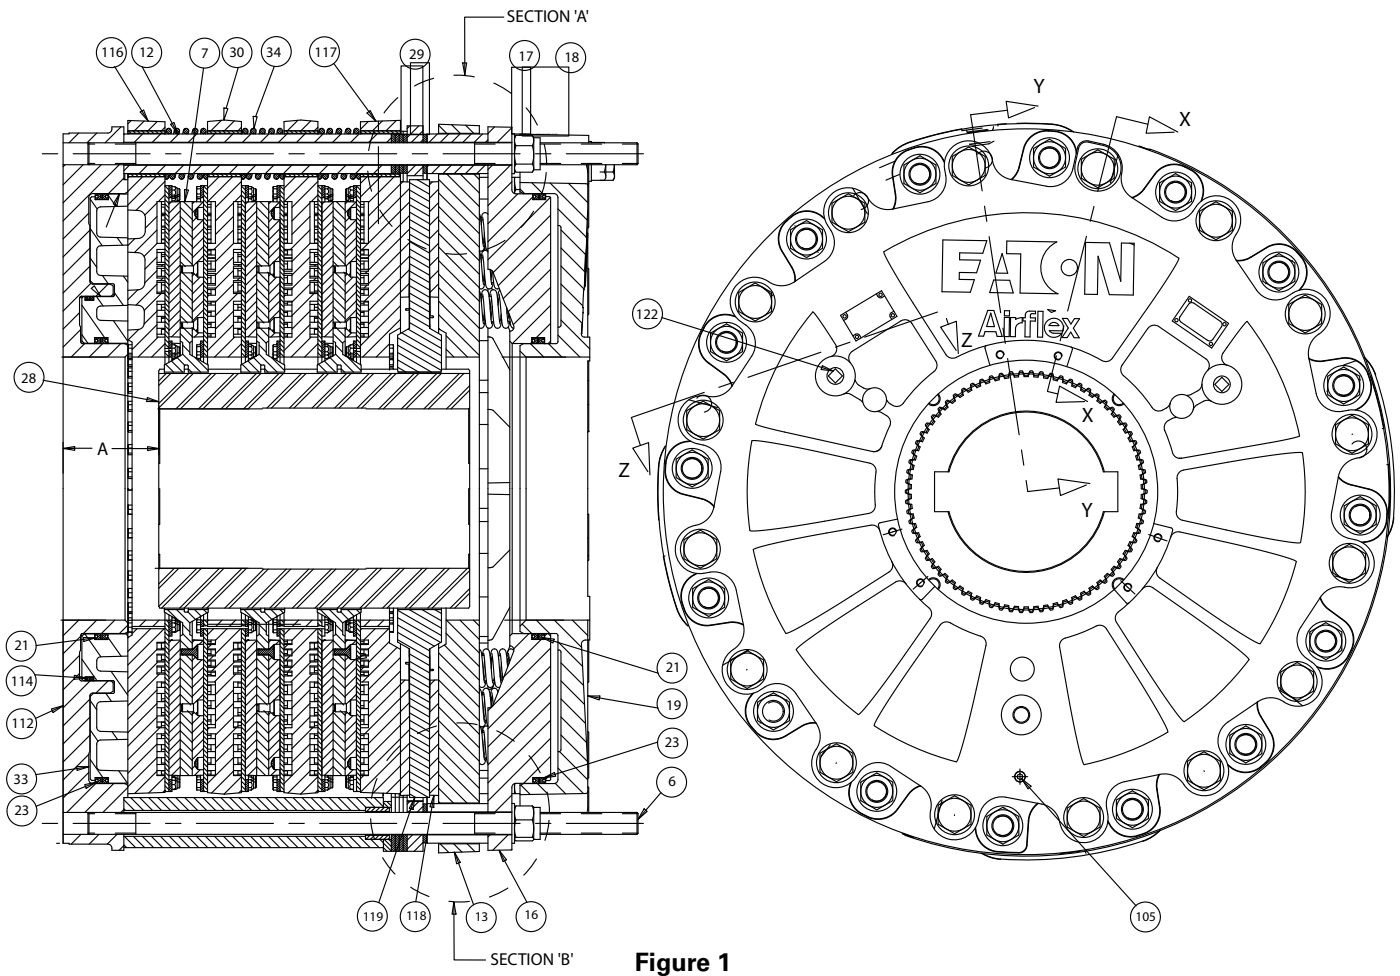

Figure 1
Item Description for Figure 1
- 1.2.1 Referring to Figure 1 and Table 1, the gear (28) is mounted on the shaft which is to be stopped and the tensioner assembly is attached to the machine frame.
The air applied pistons in the tensioner are available in either single or dual piston designs. The WCSB3 dual piston/cylinder (112) power head offers precise tensioning control by dividing the piston/cylinder into inner and outer sections (See Figure 1). This provides the ability to improve fine modulation of clamping pressure on the tensioner discs and improved control over our standard single chamber design. For very light tensioning loads, the outer piston can be used solely, with no pressure applied to the inner piston. For the largest tensioning loads, both pistons can be used together. If it is desirable to operate the tensioner at maximum tensioning load and not utilize the precise tensioning feature, the tensioner can be ordered without the intermediate piston seal (114).